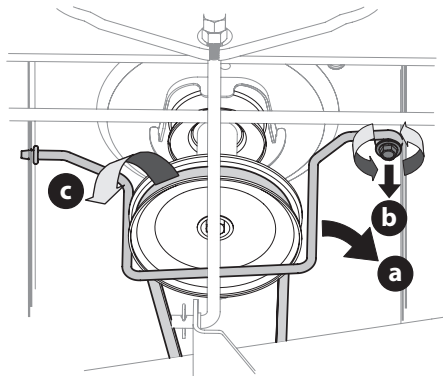

Figure 26
3. Remove the belt-keeper rod (a), from around the tractor's engine pulley, by removing the self-tapping screw (b) that secures it (Figure 26).
4. Remove the belt (c) from around the tractor's engine pulley and idler pulley(s) (Figure 26).